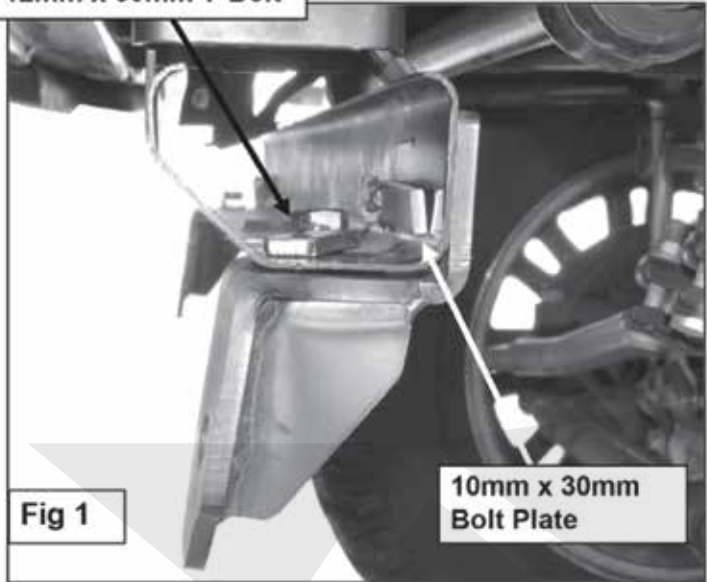

Fig 1
2) Starting on the driver side, insert (1) M12 T-Bolt into the opening in the end of the crossmember and down through the outer hole. Hang the driver side Mounting Bracket from the T-Bolt with (1) M12 Washer, (1) M12 Lock Washer and (1) M12 Nut. Next, insert the M10 Bolt Plate into the same opening in the cross member and out through the back and through the Mounting Bracket. Secure the Bolt Plate with (1) M10 Washer, (1) M10 Lock Washer and (1) M10 Nut, (Figure 1). Snug but do not tighten the hardware at this time.